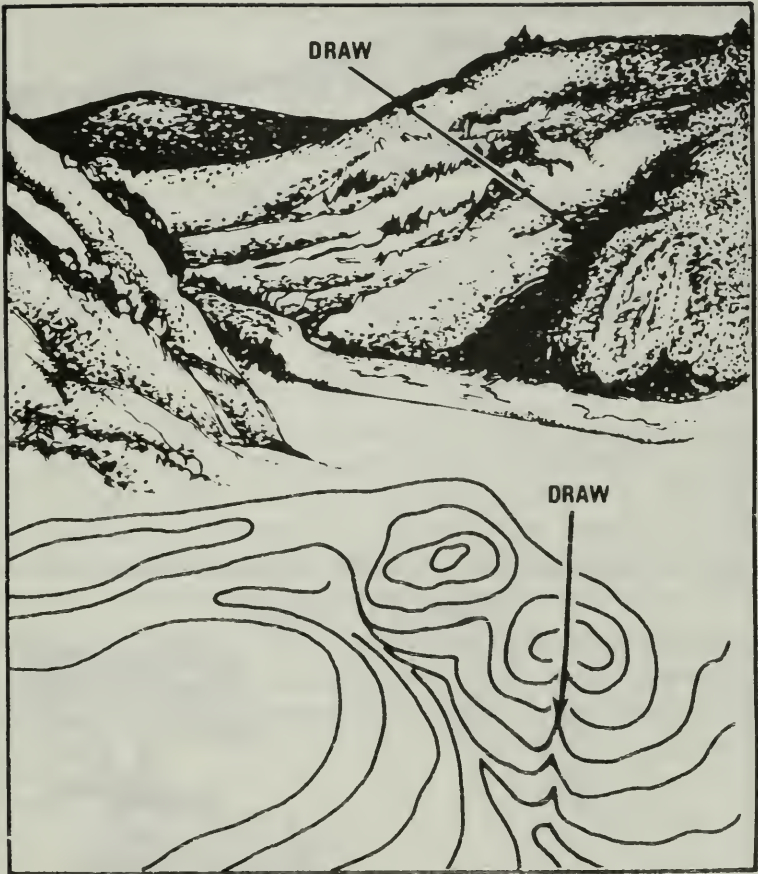

Figure 20. A Draw.
a. Draw (Figure 20). Similar to a valley, except that it normally is a less-developed stream course in which there is generally no level ground and, therefore, little or no maneuver room. The ground slopes upward on